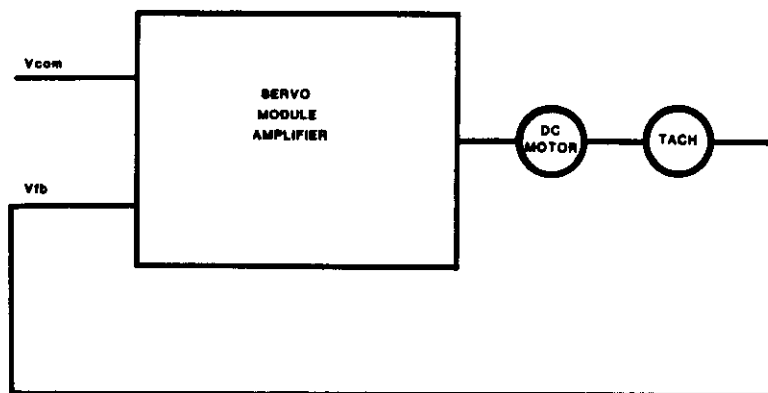

FIGURE 2-1: VELOCITY LOOP CONFIGURATION
The 100QVS is a 0 to 100VDC, 25 amp peak, 12.5 amp continuous servo amplifier, exhibiting a very high gain transconductance. It is intended primarily to drive a permanent magnet (PM) DC motor. Typically, a servo amplifier is used with a motor and a tachometer in a velocity loop configuration (refer to figure 2-1). Here a velocity input command, a voltage between $\pm 10V$, is summed with the tachometer output (negative-feedback-phased) to produce a net voltage input to the servo amplifier; the amplifier provides an output current to the motor, which is proportional to the net input. For user convenience, separate input terminals and individual scale (gain) controls are provided for both command and tachometer voltages. Summation takes place within the amplifier itself.
To further explain the arrangement shown in figure 2-1, any difference in magnitude between the scaled input command and the scaled negative-feedback tachometer output results in a proportional current into the motor. This current accelerates or decelerates the motor until the motor speed matches the (scaled) input command. Since the module has a current output proportional to speed error, rather than a voltage output, developed motor torque and therefore acceleration are likewise proportional to speed error, independent of back emf, resistance and inductance within the motor. This gives a higher degree of accuracy to the user.